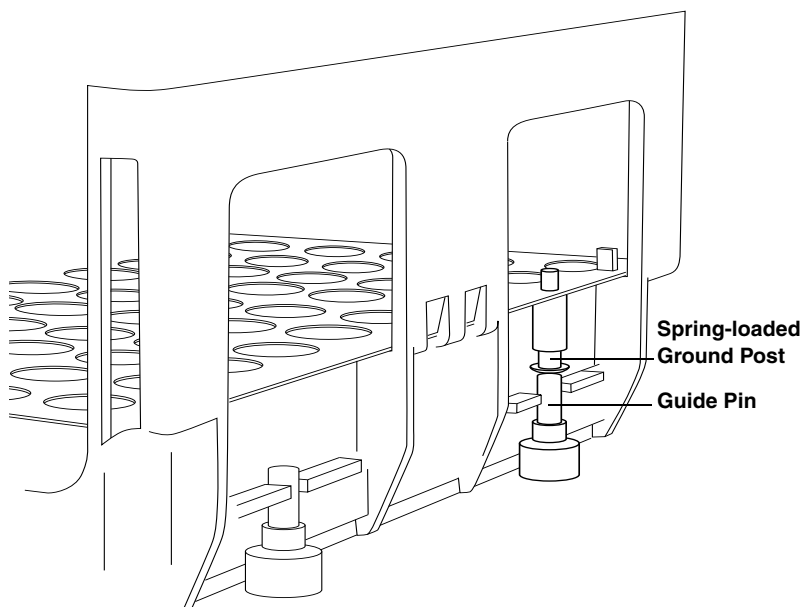

Figure 2-13 Rack installed with ground post touching guide pin
5. Verify that the spring-loaded post on the left side of the rack is touching the guide pin (Figure 2-13).